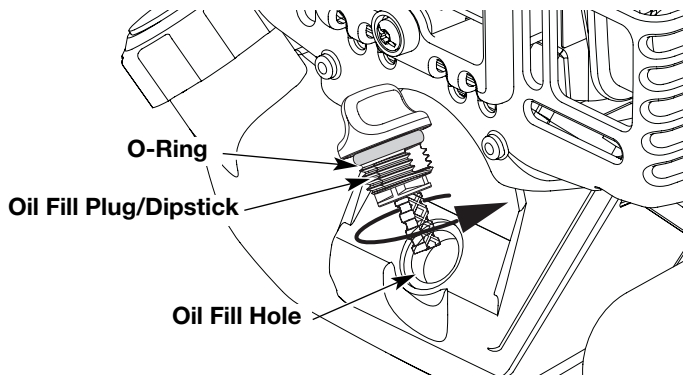

Fig. 9
3. Remove the oil plug / dipstick from the crankcase (Fig. 9).